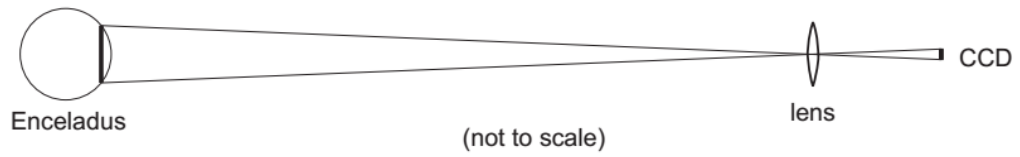

Fig. 3.2
- (ii) The image was taken with a sensor of square pixels of width $5\ \mu\text{m}$. **Fig. 3.2** shows the formation of this image (not to scale).